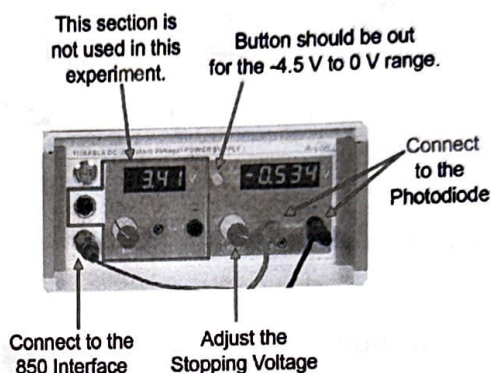

Figure 5: DC Power Supply Settings
7. On the DC Power Supply, make sure the button is out to select the -4.5 V to 0 V range (see Figure 5).